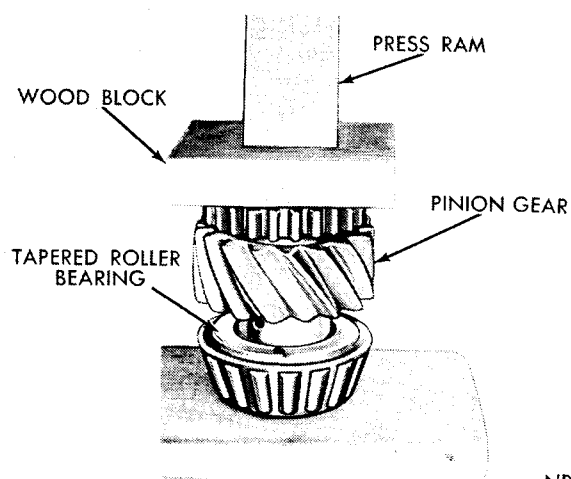
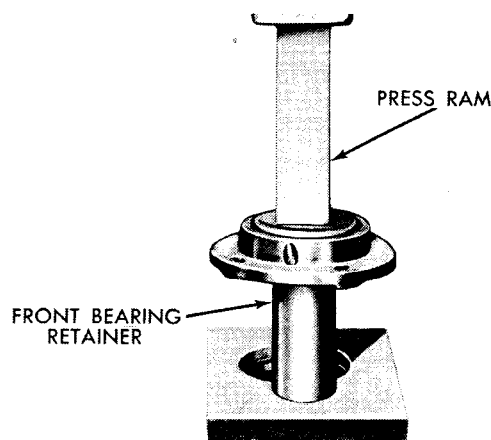

Fig. 6—Installing Pinion Bearing
Fig. 7—Installing Seal in Bearing Retainer
- (1) Position drive pinion in arbor press (Fig. 6).
- (2) Place a wood block on pinion gear and press into bearing until it contacts bearing inner race.
- (3) Coat roller bearings with light film of grease to hold rollers in place and insert in pocket of drive pinion gear.
- (4) Install washer and snap ring.
- (5) Press a new seal into place in bearing retainer, make sure lip of seal is toward mounting surface.
- (6) Press bearing race into retainer (Fig. 7).